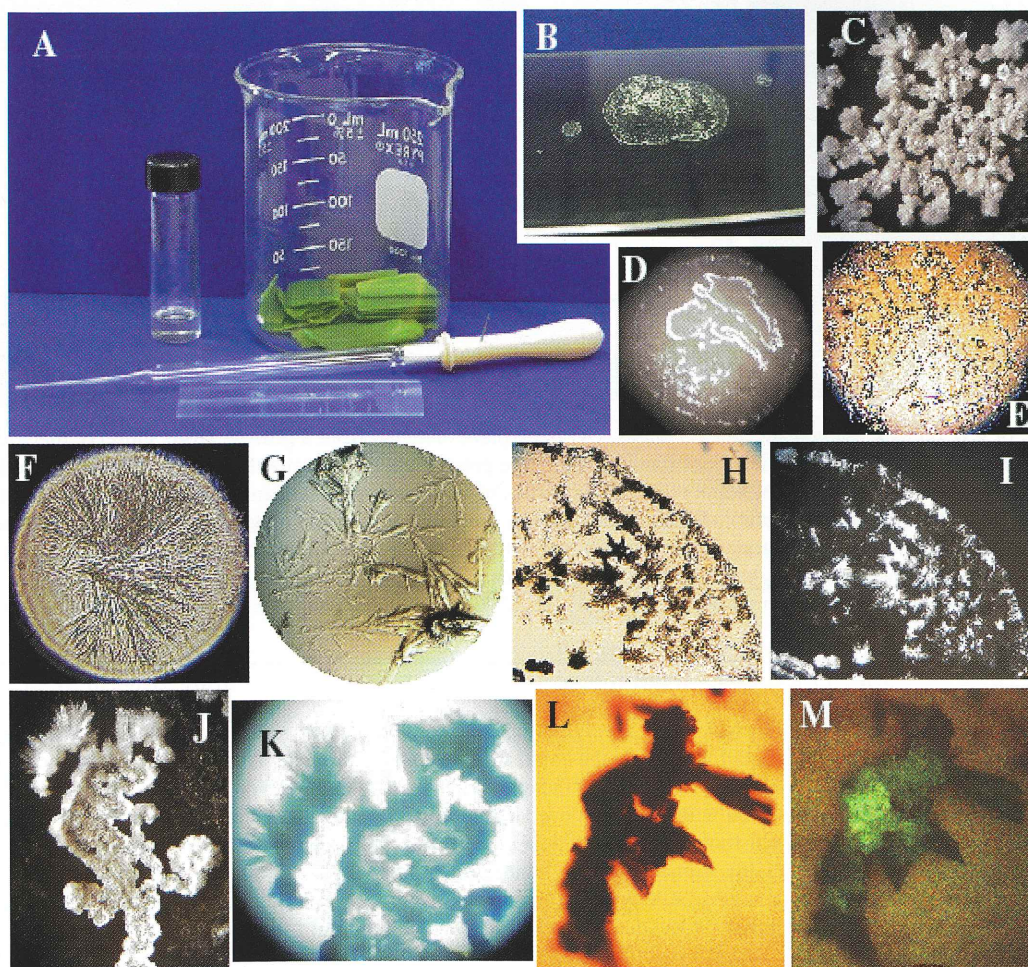

Figure 3
Figure 3 – Extraction and re-crystallization of leek EWs. (A) Glassware used for the extraction of blade EW with chloroform and storage of the EW extract. (B) Dry chloroform extract drops on a microscopic slide. (C), (D), (I), and (J) Details of white crystals as they appear under stereoscope. (E), (F), (G), (H), (K) Morphology of crystals under light microscopy. H-I and K-L are pair-views of the same crystalline formations, respectively. (L) Light microscopy views of a crystal formation and (M) its autofluorescence.
1. Cut a portion of leek leaf blade in small pieces and extract them with chloroform in a beaker or vial for 45-60 seconds. Transfer the wax extract into a clean vial tightly stoppered (Fig. 3 A).
2. Use a Pasteur pipette to place 1-3 drops of the chloroform extract on a clean microscopic slide and allow to dry under a ventilated hood before using it for microscopic observations (Fig. 3 B).
3. Observe under stereoscope and light microscope without cover slip. The cover slip will flatten the crystals if used. White, three-dimensional crystals are observed under the stereoscope, as in Figs. 3 C, D, I, and J, and fine, lacy crystalline structures under light microscope as in Figs. 3 E, F, G, H, and K. The pairs of figures H-I and J-K compare the stereoscopic to light microscopic views of the same wax crystals, respectively.
Epidermal peels and re-crystallized waxes can be observed under a microscope equipped with fluorescence capabilities. Wax autofluoresces light greenish-blue (Figs. 3 L and M) when excited with UV wavelengths. Autofluorescence originates from endogenous constituents such as aromatic compounds in plant waxes (Post-Beittenmiller, 1998; Dubis *et al.*, 2001).